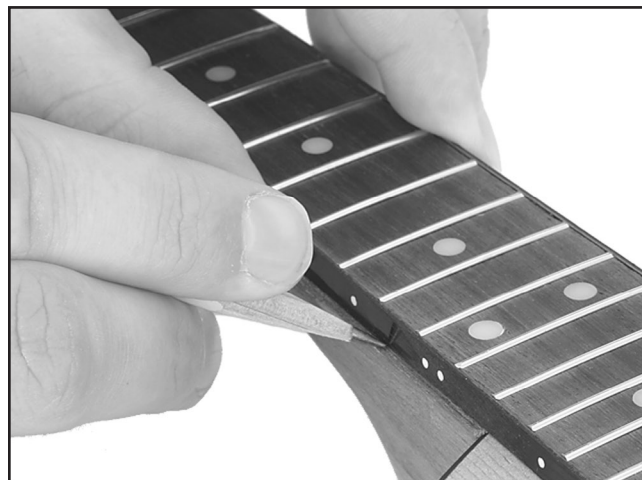

Figure 20. Example of marking fretboard binding on neck.
11. Mark the edge of the fretboard binding on both sides of the neck, drawing a line 2" from the body toward the headstock as shown in **Figure 20**.